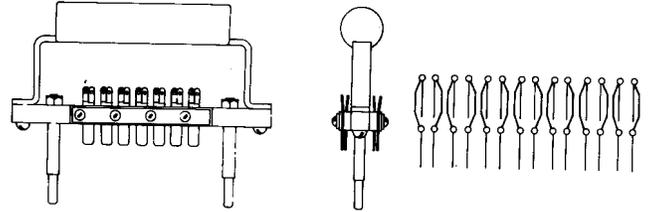

Fig. 8—187 Plug
2.10 187: The 187 plug (A&M Only) (Fig. 8) is equipped with a wooden handle to facilitate removal of the plug from the jack. The 187 plug is used with the 283 jack in either of two positions, and is provided with two guide posts for centering the plug in the jack. The plug is used in the panel dial line